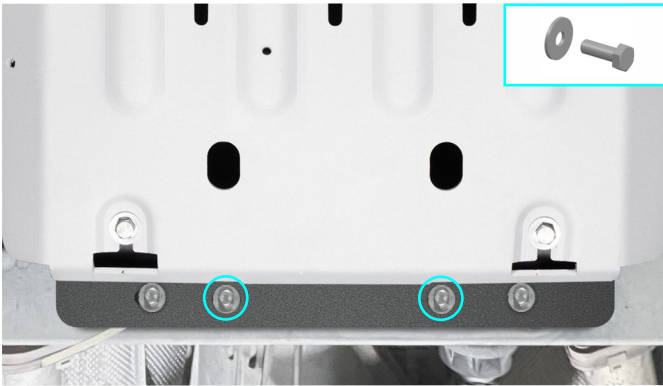

Fig. 6
6. Loosely insert supplied bolts M10x30 with flat washers M10 (items C, D) to rear bracket of RIVAL Transmission skid plate (fig.6).